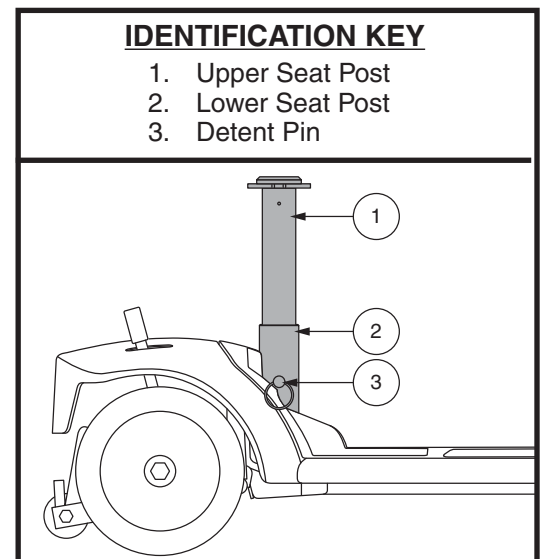

Figure 24. Seat Height Adjustment
The seat can be repositioned to different heights. See figure 24.
2. Remove the upper seat post from the Travel Scooter by removing the detent pin from the lower portion of the seat post, then lifting the post straight up and off the Travel Scooter. **See figure 24.**